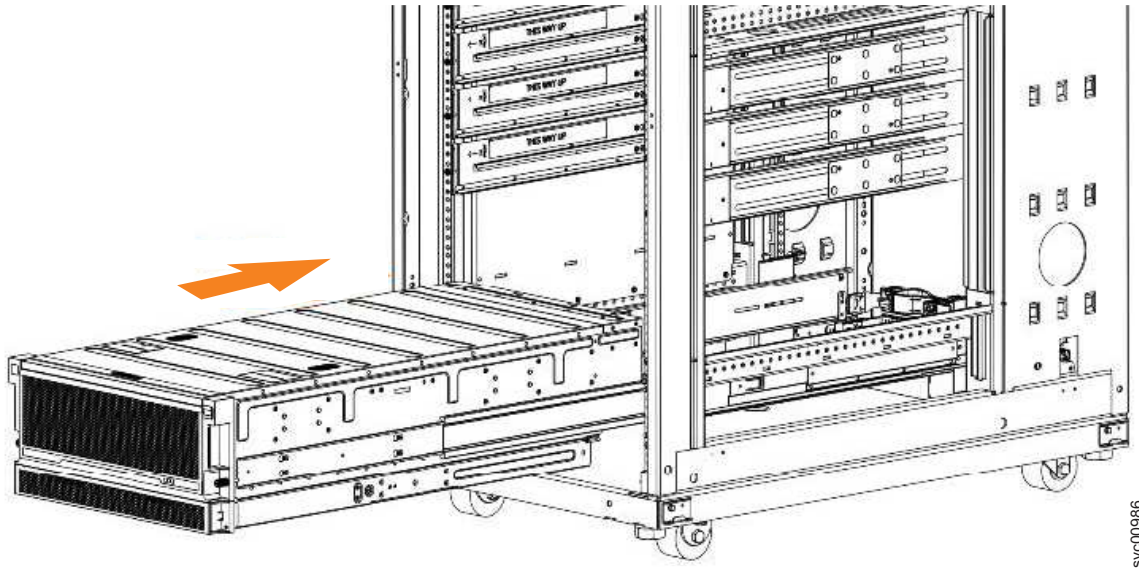

Figure 40. Example installation of the enclosure in the rack
- Install the expansion enclosure in the lowest position in the rack. Figure 40 on page 50 shows an example.